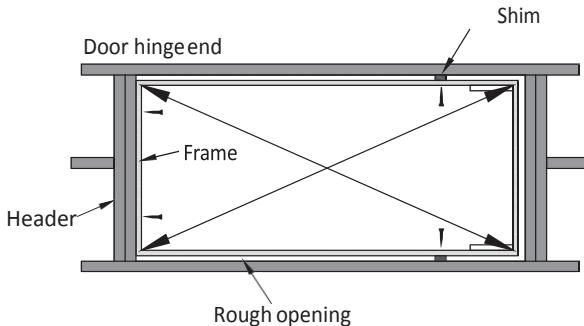

FIGURE 7
F. Make sure frame on door hinge end of ladder is pushed up against header and is centered side to side in rough opening. With the door closed, secure frame to header using two  $2\frac{1}{2}$ " wood screws (Figure 7). Due to the tight conditions, screws will need to be installed at an angle through the frame and into the header. Do not use the pre-drilled holes for the wood screws. These holes are used in Step 2.
G. Carefully open attic ladder door but do not unfold the climbing section until indicated in step 3. Center and square the opposite side of attic ladder frame in the rough opening using shims. Ensure ladder frame is square by measuring diagonals of the frame within  $1/8"$  (Figure 7).
H. Secure sides of ladder frame to ceiling joists with  $2\frac{1}{2}$ " wood screws at shim locations (Figure 7). Do not use pre-drilled holes for wood screws. Pre-drilled holes are used in Step 2.